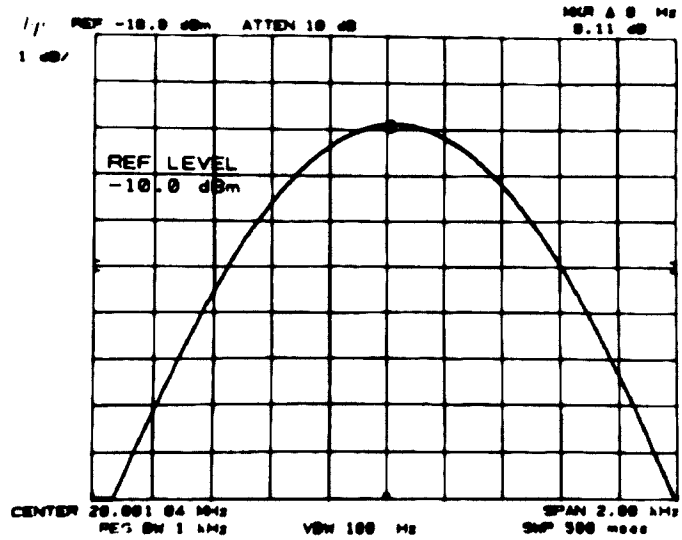

Figure 2-10. IF Gain Uncertainty Measurement
12. Set the analyzer **(REFERENCE LEVEL)**, **(VIDEO BW)**, and frequency synthesizer amplitude according to Table 2-9 settings. (Use the frequency synthesizer **(1)** for 10 dB steps.) At each setting, note the MKR Δ amplitude displayed in the upper right corner of the analyzer display (deviation from the 0 dB reference setting) and record it in the table. See Figure 2-10.